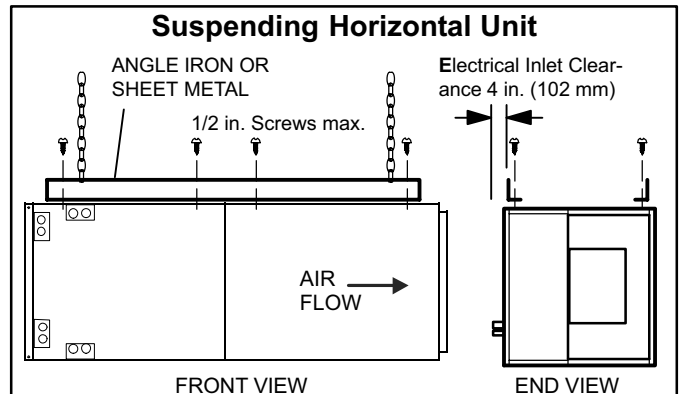

Figure 4
6. If the unit is suspended, the entire length of the cabinet must be supported. If you use a chain or strap, use a piece of angle iron or sheet metal attached to the unit (either above or below) to support the length of the cabinet. Use securing screws no longer than 1/2 inch to avoid damaging the coil or filter. See figure 4. Use sheet metal screws to connect the return and supply air plenums as required.